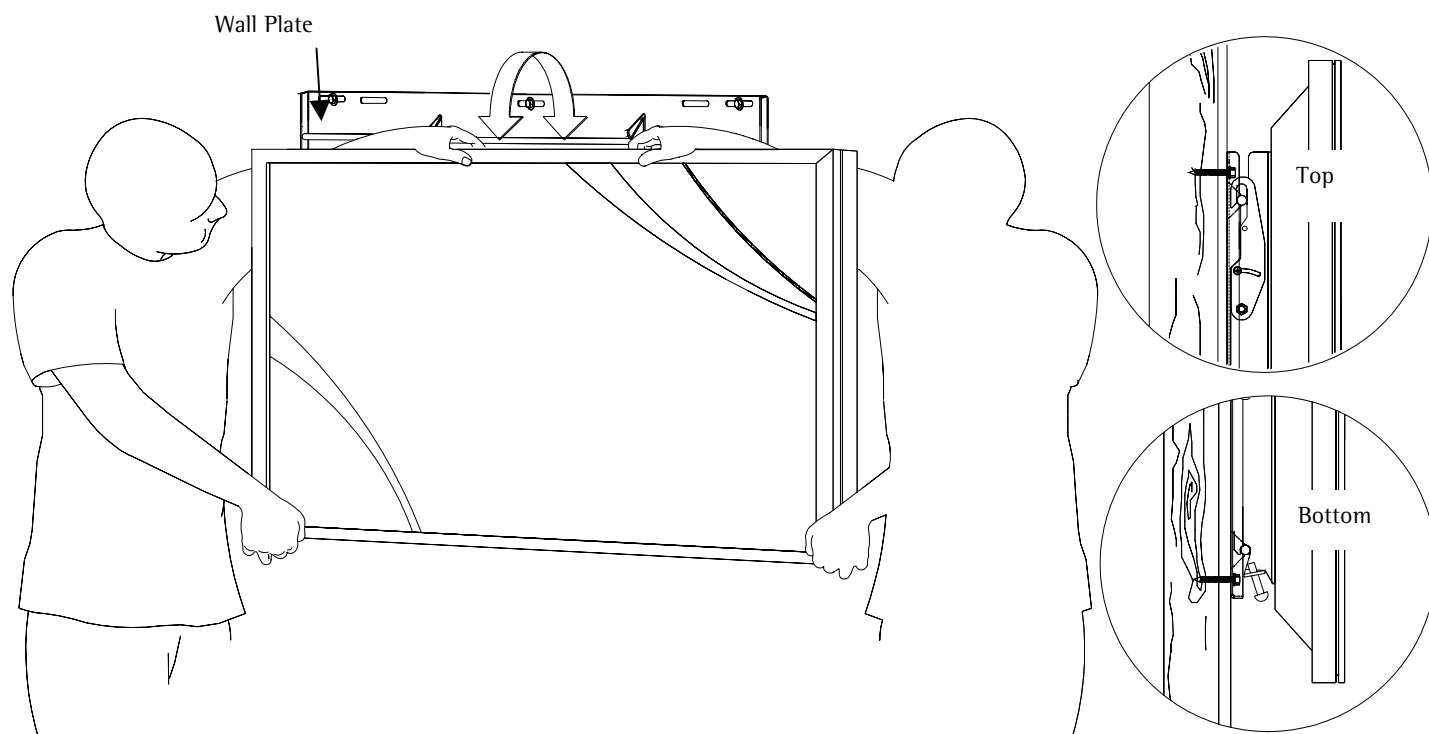

Figure 15
1. Raise the flat panel with the LEFT and RIGHT mounting brackets secured to the flat panel and insert the top hooks over the upper rod. The lower hooks should rest on the lower rod (Figure 15).